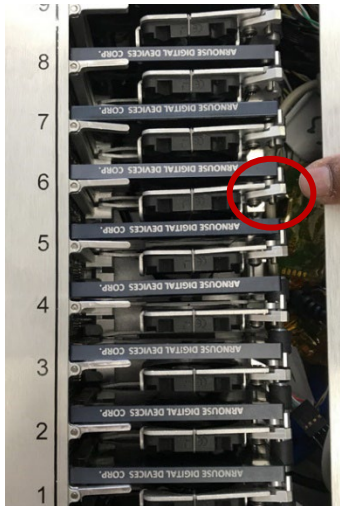

Figure 13- SR10 PC Card Unlocking
**Warning: The 5V power cable must be installed with the proper polarity (see Figure 13). Connecting the 5V power cable with reverse polarity will severely damage the KVM PCB.**